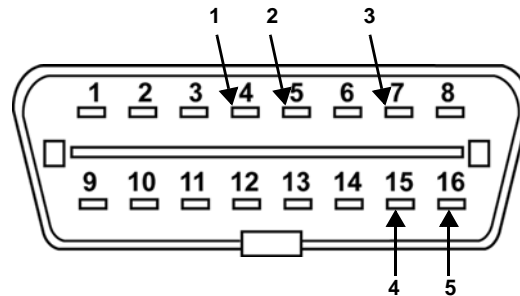

Figure B-1 16-pin OBD-II data link connector (DLC)
1. Temporarily place a 1K-ohm resistor between pins 4 and 7 of the DLC and ensure it is making contact with both pins (Figure B-1). If the resistor gets hot, your K-Line is shorted to B+. If it does not get hot, you do not have a problem. Do NOT install this resistor in the port. You are simply using it to check and see if the K-Line has 12V.